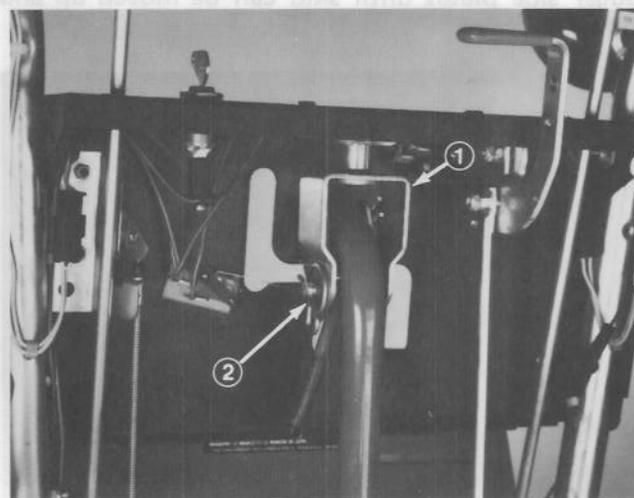

Figure 40
2. Disengage back of wheel drive control from U-shaped pivot bracket by removing hair pin cotter, flat washer and clevis pin (Fig. 40). Move control away from U-shaped pivot bracket.
3. If snowthrower drive does not disengage, rotate U-shaped pivot bracket (Fig. 40) inward one half – 180° – turn.
4. Install back of wheel drive control between U-shaped pivot bracket with clevis pin, flat washer and hair pin cotter (Fig. 40). Head of clevis pin must be on right side.